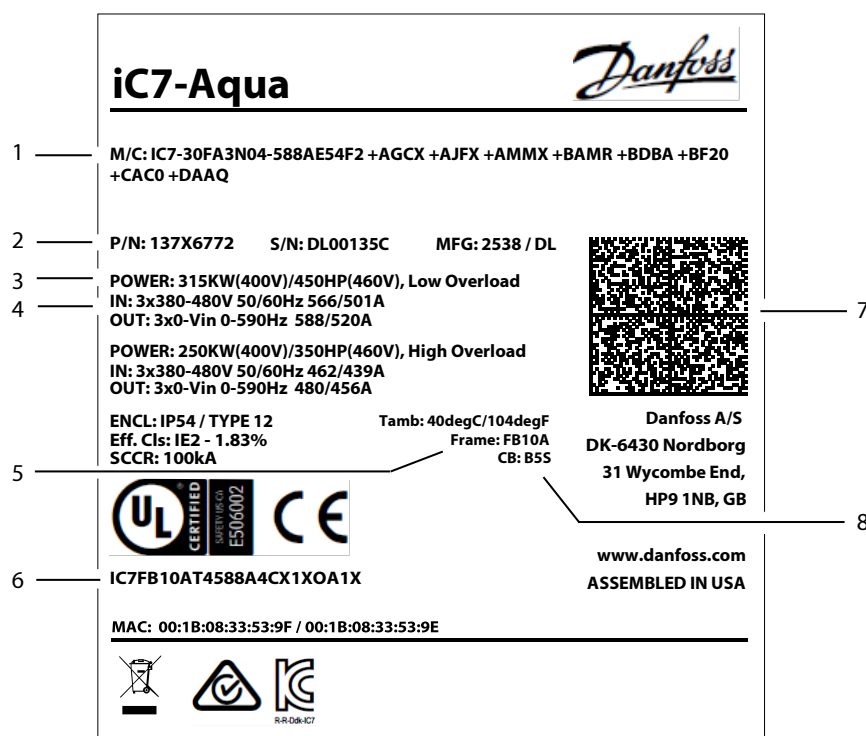

Figure 1: Example of a Product Label
1. Identify the frame and control board designations. See Figure 1.